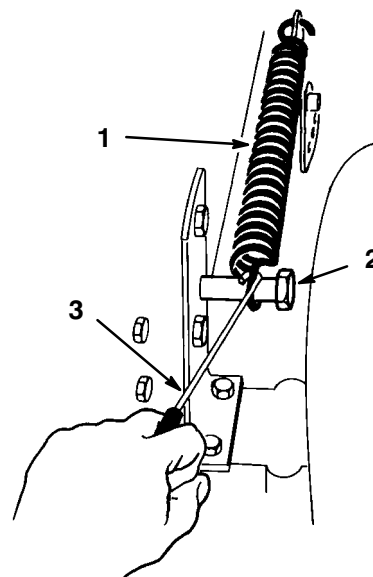

Figure 38
4. Remove the height-of-cut lift assist spring from the retaining bolt (Fig. 38), using the spring tool provided with the machine. The spring is between the frame and the right rear wheel.
14. Move the height-of-cut lever (deck lift) into the "D" notch. Hook lift assist spring onto retaining bolt for storage (Fig. 38).